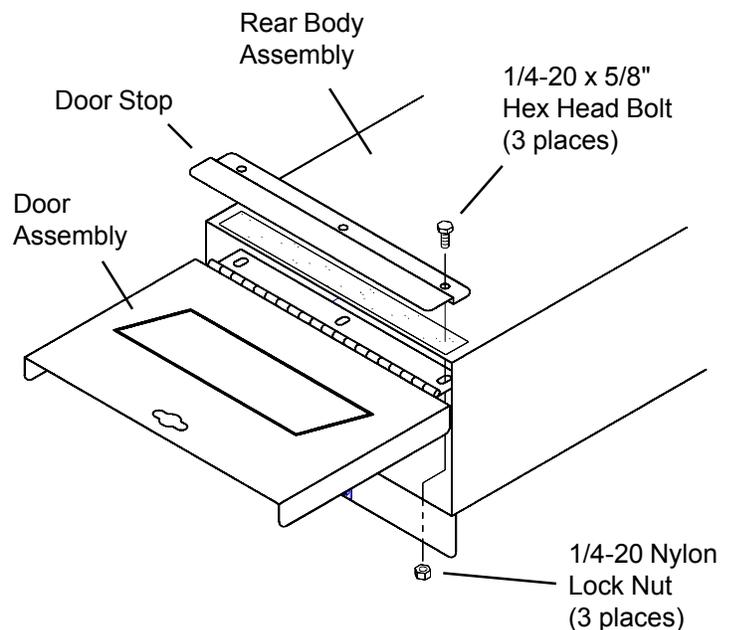

Figure 3. Door Stop and Door to Body Assembly
2. Place the Door Stop on top of the Rear Body Assembly and the Door inside. Poke the fasteners through the Weatherstrip, and loosely fasten the Door Stop and Door. Center the Door on the Rear Body Assembly, then tighten the bolts (see Figure 3).